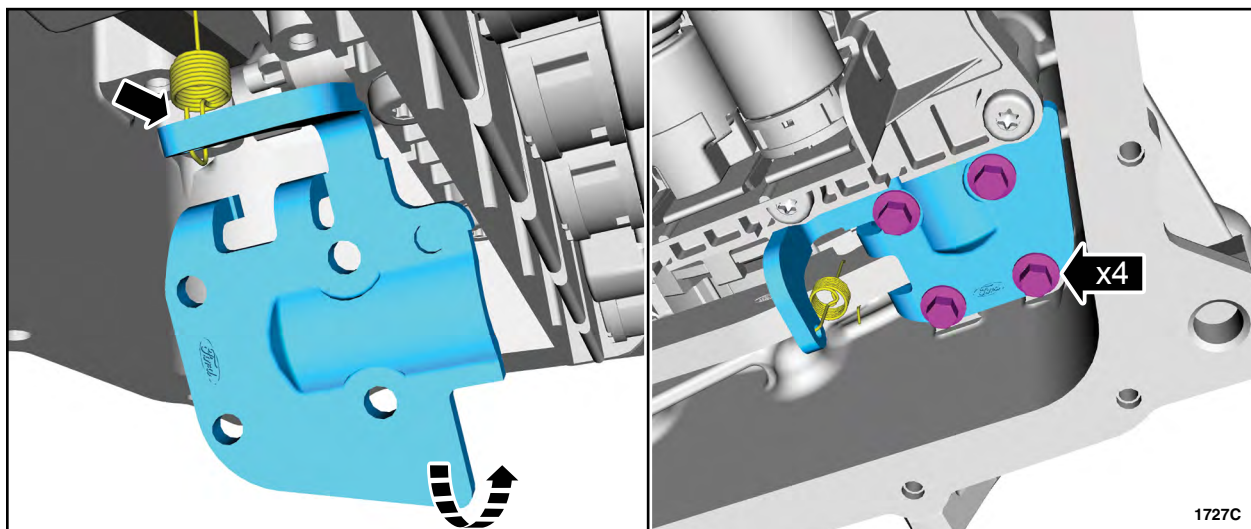

**FIGURE 2**
4. Reinstall the park pawl return spring onto the park pawl. See Figure 2.